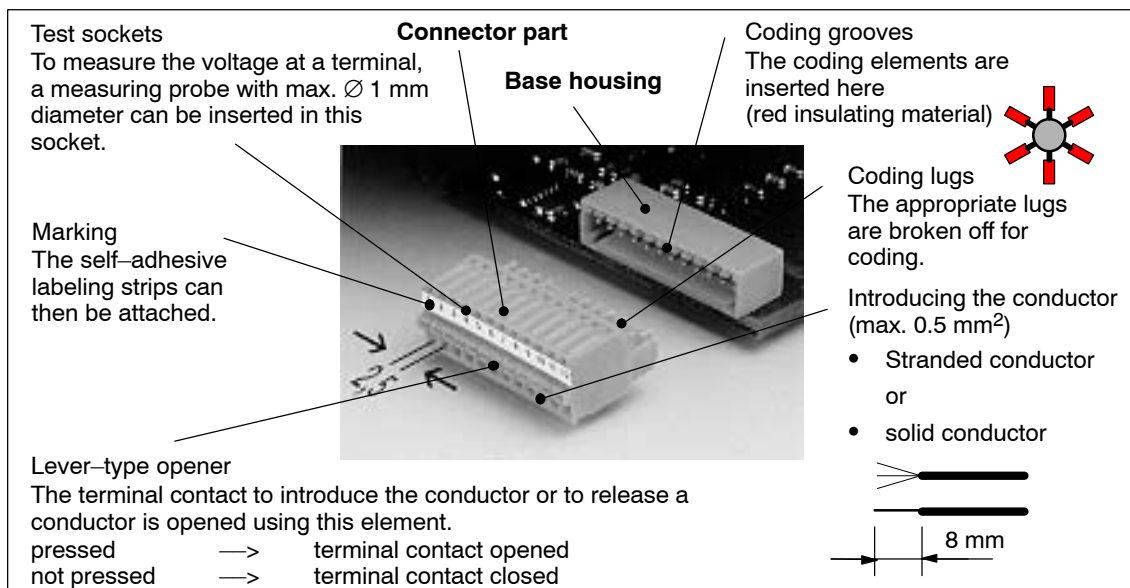

Fig. 2-5 Compact connector (Mini connector)
- Introducing conductors (refer to Fig.2-5):
- Coding (refer to Fig. 2-5):